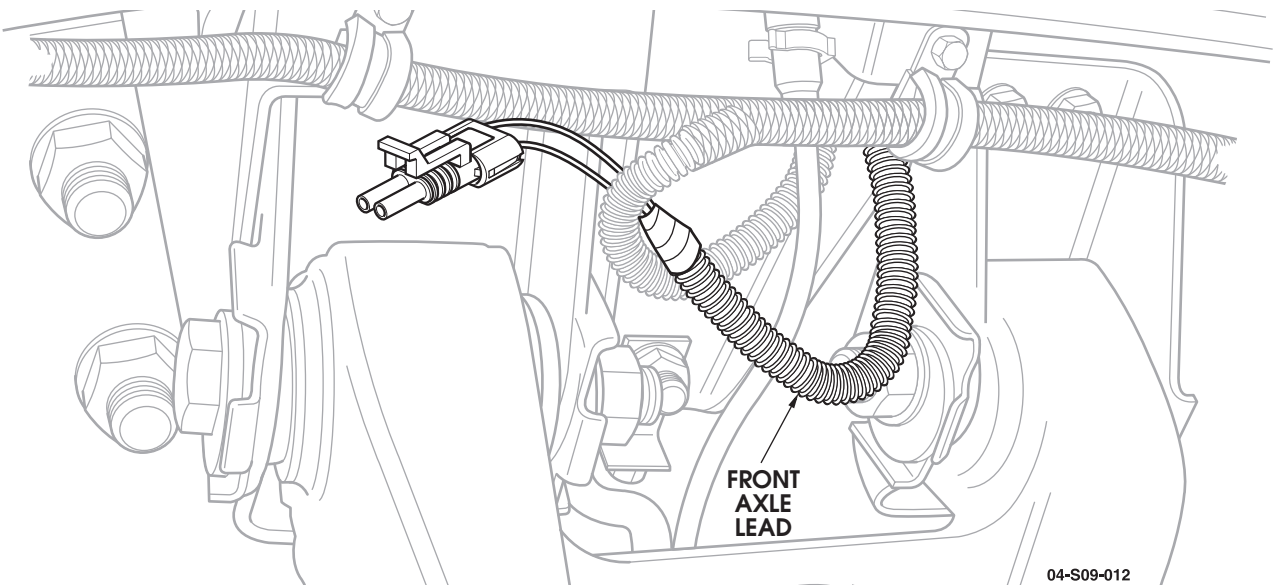

Figure 20: Front axle lead ends at the left front A-arm.
33. Route the front axle lead next to the cowl top harness under the hydro boost unit and beside the master cylinder to the left splash shield. Continue routing between the splash shield and the airlift bracket to the lower edge of the splash shield near the center of the left A-arm and secure to the CTIS hose at the P clamp (See Figure 20).